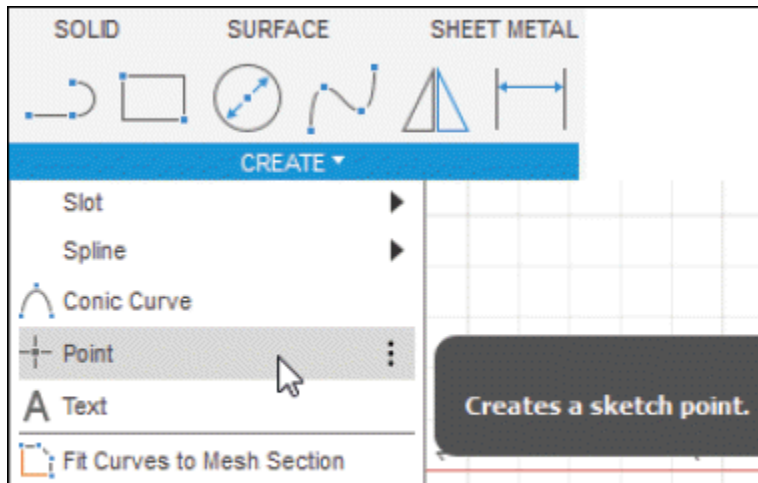

Figure-42. Point tool
- Click on **Point** tool of **CREATE** drop-down from **Toolbar**; refer to Figure-42.